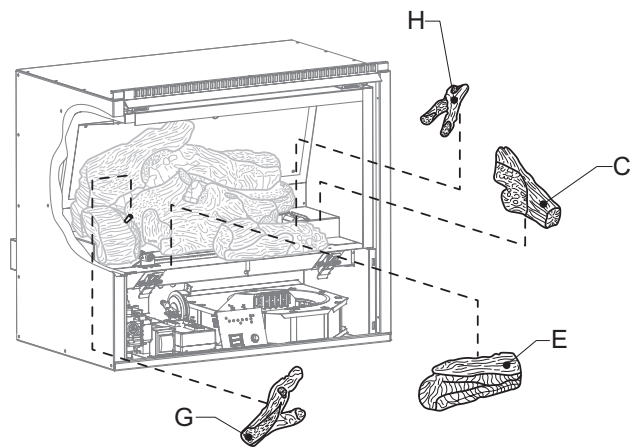

Figure 20B
5. Place Front Left Log (E) on left side of Firebox bottom. Notch in bottom of Front Left Log fits over front Hot Surface Ignitor. See Figure 20B.
6. Place Right Log (C) on right rear log support shelf. Top of log rests on Rear Log (A) and bottom of log rests on Firebox bottom. Charred portion of log must face inward.
7. Place Left Top Long Log (G) on the pin on Left Log (B). The upper left leg of Left Top Long Log will rest on Rear Log (A). The upper right leg of Left Top Long Log will rest on Middle Log (D).
8. Place Right Top Long Log (H) on the pin on the Right Log (C). The bottom left leg of the Right Top Long Log will rest in the indent on the right side of the Middle Log (D). The bottom right leg of the Right Top Long Log will rest in the indent in the Front Right Log (F).